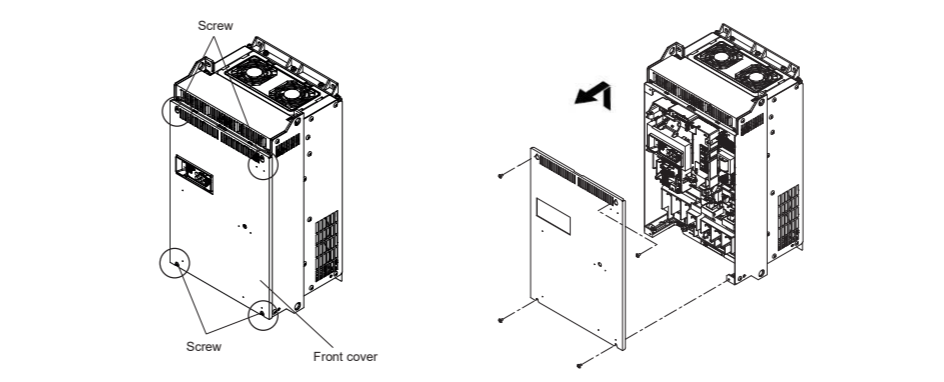

Fig. 2-5 Front cover and wiring guide removal (FRN0060LM3S-4G)
- After carrying out wiring work, align the top of the front cover with the hole on the cover, and reattach using the opposite procedure to that in Fig. 2-5.